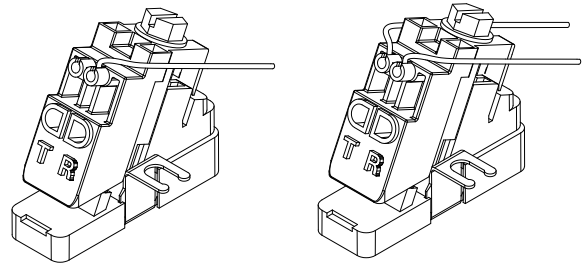

Figure 2
- Using a 216 tool, raise the station protector driver by turning the bolt counterclockwise until the bolt spins freely, indicating the driver is in the "up" position. Insert the subscriber bridge conductors into the proper small top wire ports of the station protector until fully seated (approx. 3/4" or 20mm). Do not strip insulation from conductors (Figure 2).